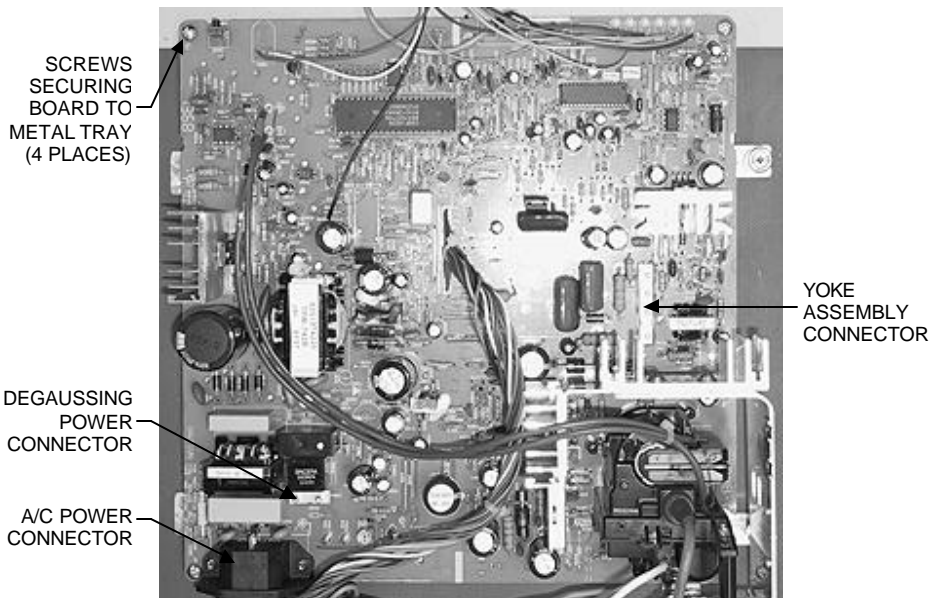

FIGURE 12 - FORCE RADION - SIDE VIEW
9. Unscrew the (2) thumbscrews securing the motherboard assembly, then remove the motherboard from the game.
10. Unscrew the thumbscrew securing the fan assembly (see Figure 12), disconnect the 2-pin fan power connector, and remove the fan assembly from the game.
11. If your game has an angled bracket on the edge of the monitor chassis board, unscrew and remove it. This bracket is only used for shipping and can be discarded. See Figure 12.
29. Replace the fan assembly, reconnect the 2-pin fan power connector, and tighten the thumbscrew to secure the fan assembly to the game. See Figure 12.
30. Replace the motherboard and tighten the (2) thumbscrews to secure the motherboard assembly to the game.